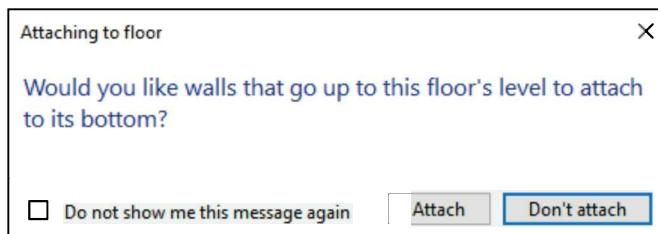

FIGURE 9-1.13 Join walls below to new floor prompt
36. Click **Attach** to the prompt “*Would you like the walls that go up to this floor’s level to attach to its bottom?*” (Figure 9-1.13). Also, click **OK** if prompted with a “highlighted walls are attached, but miss...” warning.